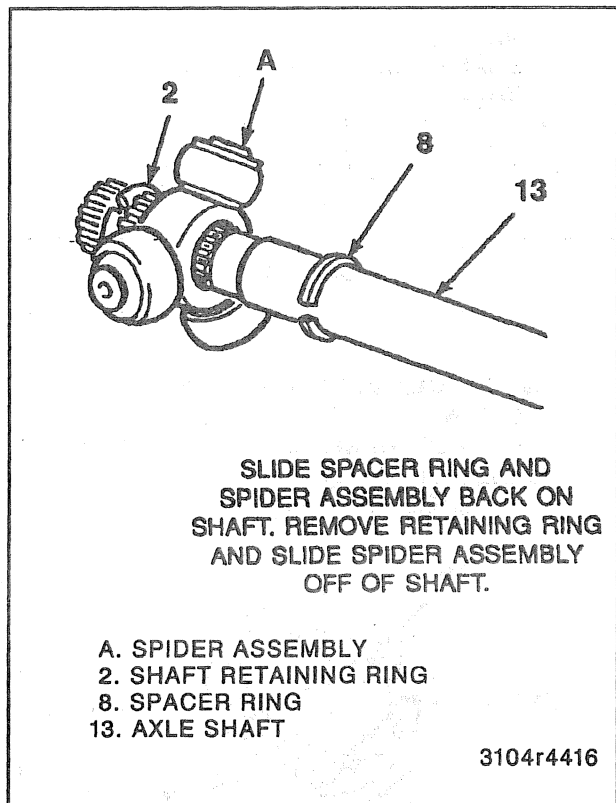

Figure 21—Removing Spider Assembly
- Do not cut through the seal (10) with the chisel and damage the sealing surface of the tripot outer housing (1).
2. Small seal-retaining clamp (11) from the axle shaft (13) with a side cutter, and discard.
- Separate seal (10) from the tripot housing (1) at the large diameter and slide the seal away from the joint along the axle shaft (13).
3. Tripot housing (1) from the spider (3) and shaft.
- Spread the spacer ring (8) with J 8059 and slide the spacer ring and the tripot spider (3) back on the axle shaft (13).
4. Shaft retaining ring (2) from the groove on the axle shaft (13) and slide the spider assembly off the shaft (figure 21).